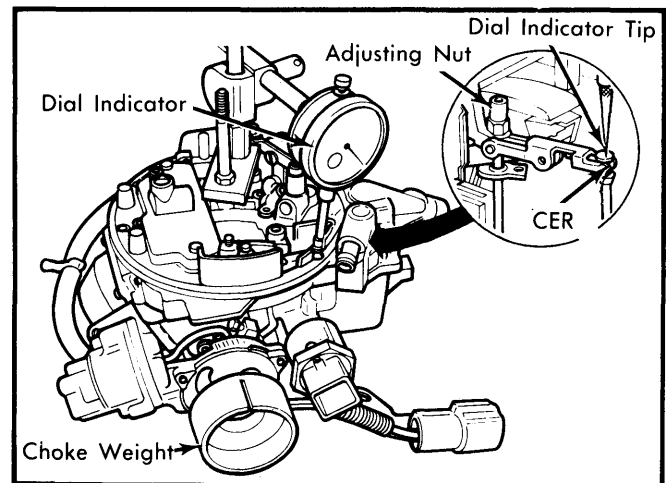

Fig. 5 Cold Enrichment Rod (CER) Adjustment Set-Up Procedure
1) Remove choke cap as described under OVERHAUL procedures in this article. Install choke weight (T77L-9848-A7 or equivalent) on choke bi-metal lever. With CER seated, install a dial indicator on top of CER. Zero dial indicator. Free fast idle cam from fast idle lever. See Fig. 5.
1) Remove choke cap as described under OVERHAUL procedures in this article. Install choke weight (T77L-9484-A7 or equivalent) on choke bi-metal lever. With CER seated, install dial indicator on top of CER. Zero dial indicator. Free fast idle cam from fast idle lever. See Fig. 5.